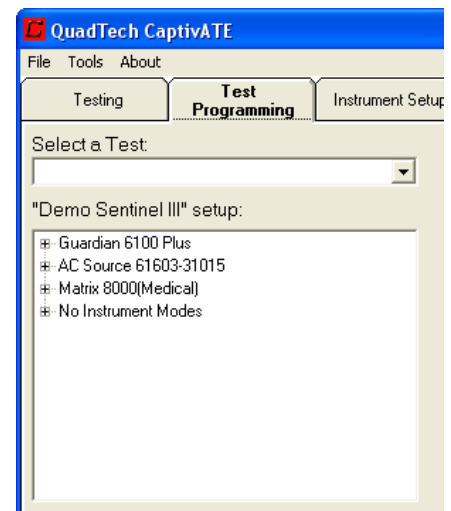

Figure 58 Test Programming: Included Instruments
1. Start building a test sequence by clicking the AC source, and expand the command tree by clicking the “+” next to the respective instrument as shown in Figure 58 .